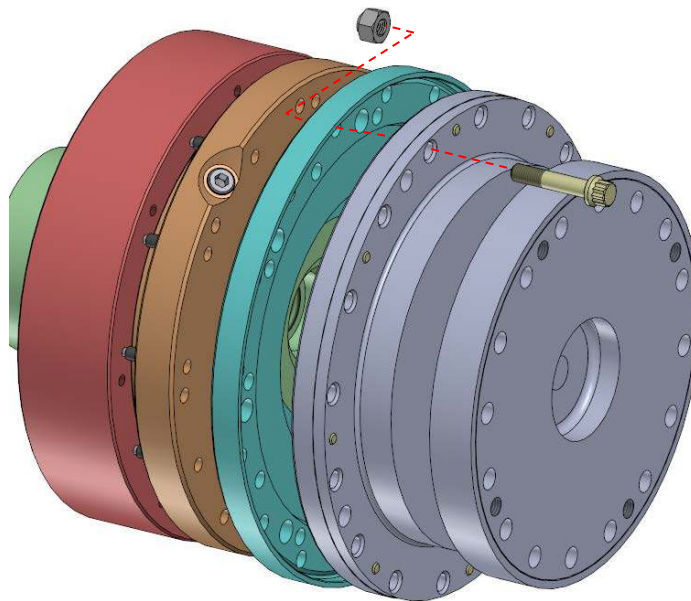

Figure 8 – Flex Assembly Installation on Hub Flange
4.1.1 Install one flex assembly onto the hub as shown in Figure 8 aligning the holes using Qty (4) bolts and nuts spaced 90 degrees apart. Tighten the bolts/nuts a few turns at a time in a criss-cross pattern to seat the pilot evenly. Install the remaining bolts and nuts and torque evenly in a criss-cross pattern to the torque shown on drawing HC-6502.